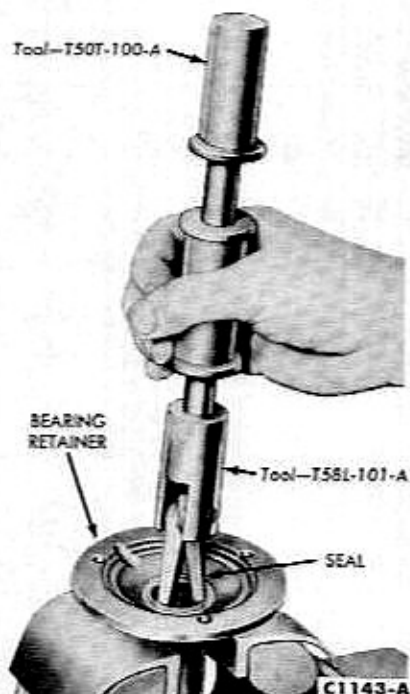

FIG. 11—Input Shaft Seal Removal
13. If the input shaft seal is to be replaced, use the tools shown in Figs. 11 and 12.